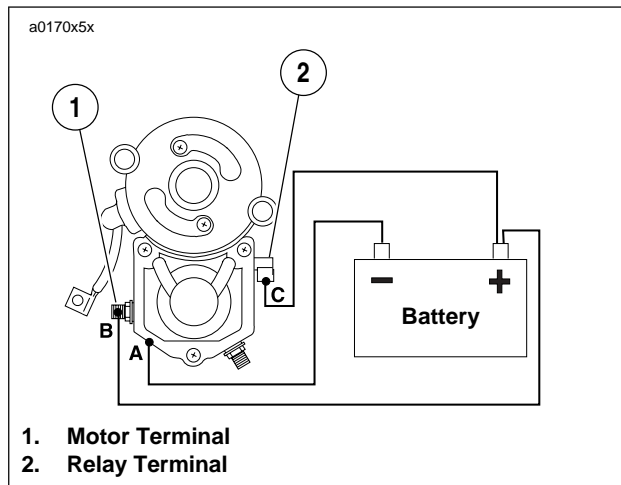

Figure 5-14. Hold-In Test
1. See Figure 5-14. With test leads still connected in the manner specified in the previous SOLENOID PULL-IN TEST, disconnect solenoid motor terminal/battery negative test lead (B) at negative battery post only; reconnect loose end of this test lead to positive battery post instead.